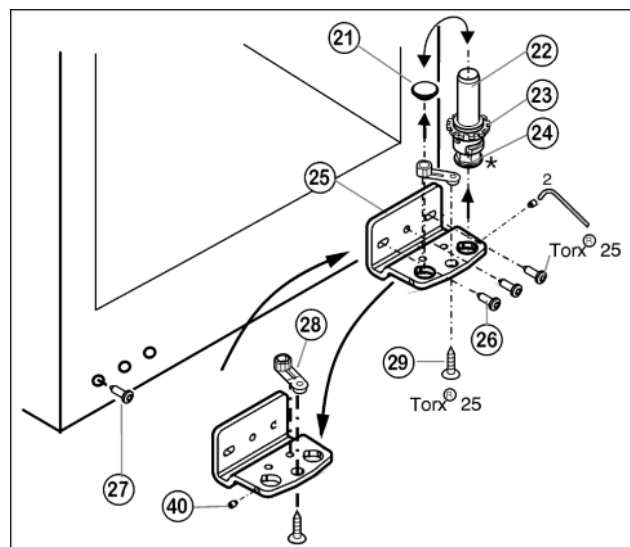

Fig. 8*
- Unscrew the bearing element Fig. 8 (28), turn it through 180° and screw it firmly back into place.
- Unscrew storage section Fig. 8 (28) and fit it to the opposing locating bore in the mounting block, then tighten it down.